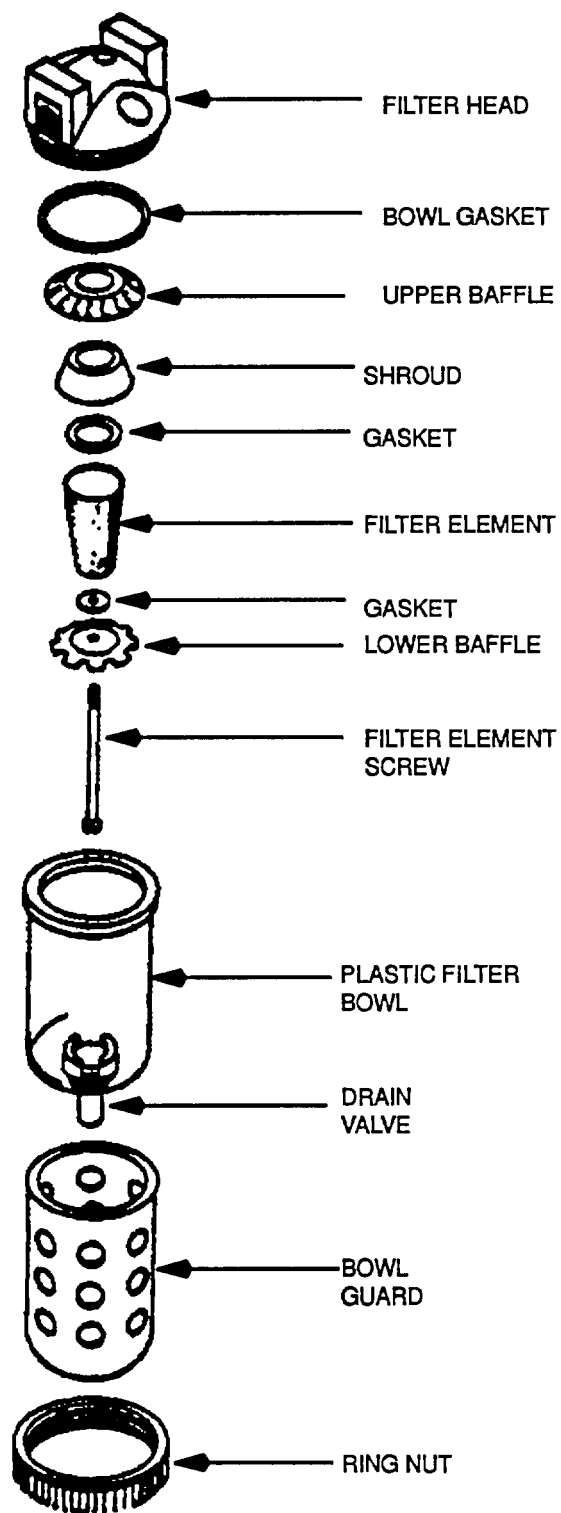

Figure 4-2. Air Filter 1, Exploded View
- c. Manually, without using a wrench, unscrew ring nut attaching bowl guard and plastic filter bowl to filter head and remove guard, bowl and bowl gasket (Figure 4-2).
- d Unscrew filter element screw and carefully remove lower baffle, gasket, filter element, gasket, shroud, and upper baffle. Place them on clean cloth in sequence shown in Figure 4-2.
- h. Assemble parts in sequence shown In Figure 4-2 on filter element screw. Screw filter element screw into filter head.